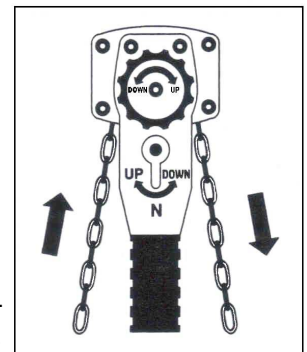

FIGURE 4
- ① Set change lever in central position then adjust chain freely by hand in either direction, UP or DOWN.(Fig. 4)